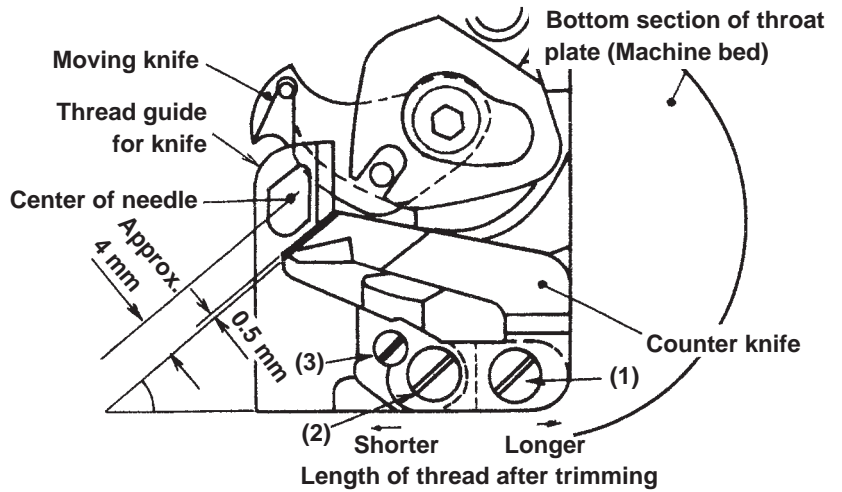

Fig. 17
The dimension of proper installation of the counter knife is as shown in Fig. 17. The standard distance from thread guide for knife attached so that needle enters the center of window to the top end of counter knife blade is 0.5 mm.
When replacing the thread guide for knife, loosen screws (2) and (3) shown in Fig. 17, and replace it with screw (1) tightened.